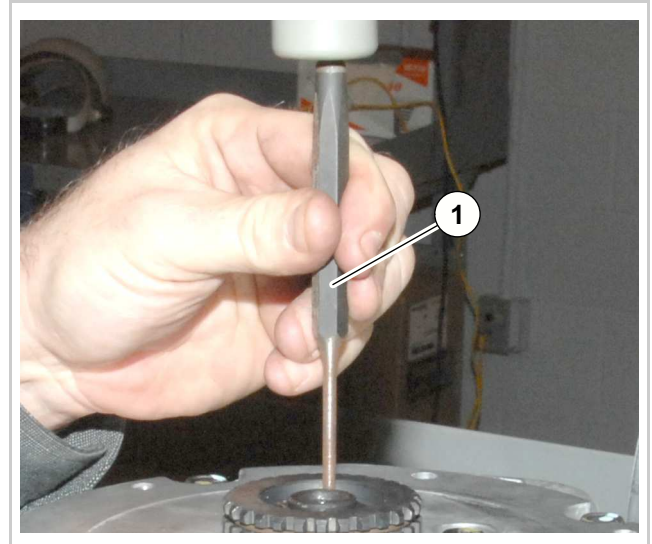

Fig. 41 (26533-01)
8. Push the retaining ring (1, Figure 41) into the groove in the traction motor shaft with a punch.